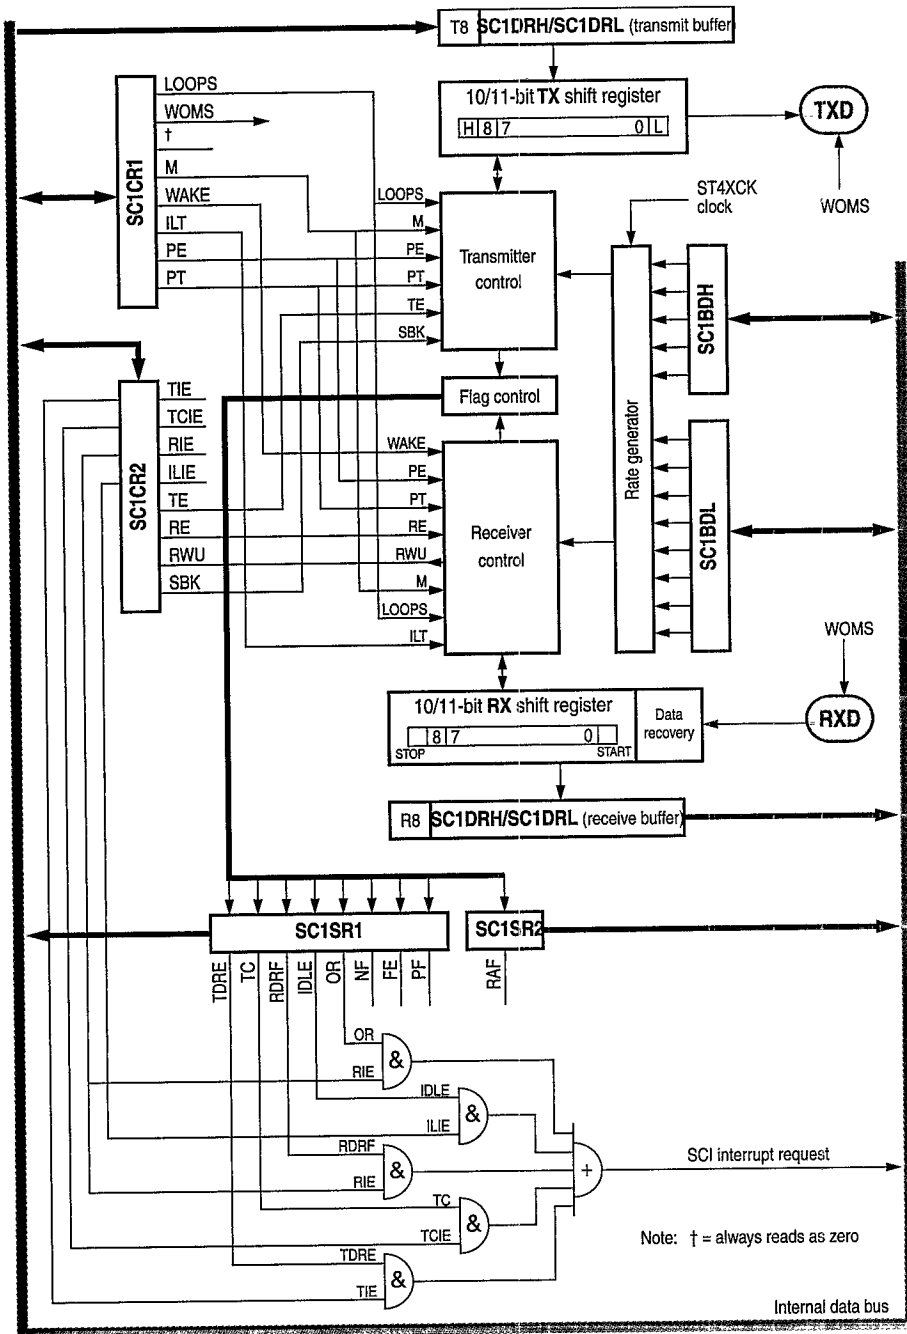

Figure 7-2 SC11 block diagram
The SCI transmitter includes a parallel data register (SC1DRH/SC1DRL) and a serial shift register. The contents of the shift register can only be written through the parallel data register. This double buffered operation allows a character to be shifted out serially while another character is waiting in the parallel data register to be transferred into the shift register. The output of the shift register is applied to TXD as long as transmission is in progress or the transmit enable (TE) bit of serial communication control register 2 (SC1CR2) is set. The block diagram, Figure 7-2, shows the transmit serial shift register and the buffer logic at the top of the figure.